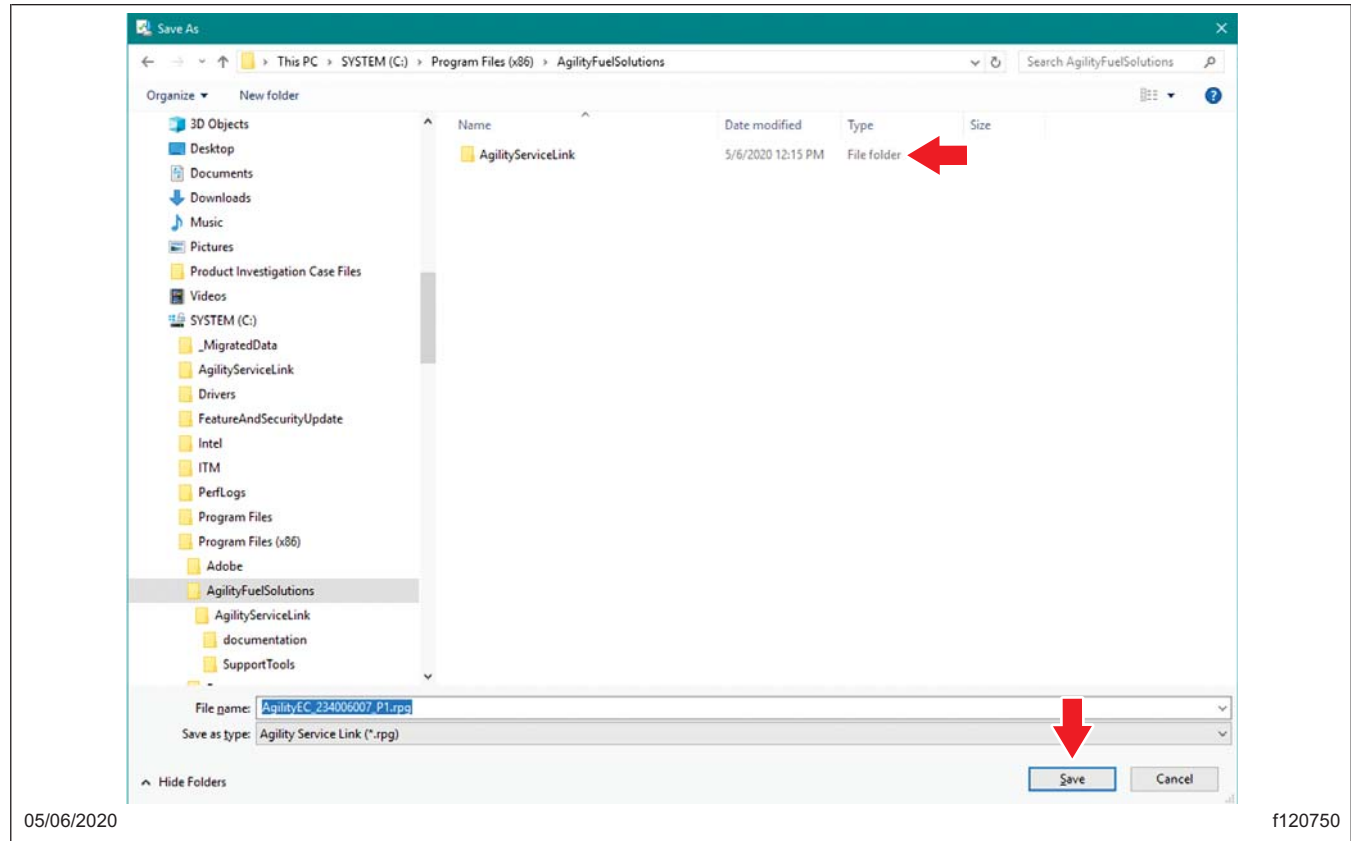

Fig. 19, Saving the Calibration in the Agility Fuel Solutions Folder
21. Once the folder is open, save the calibration program here. See Fig. 19.